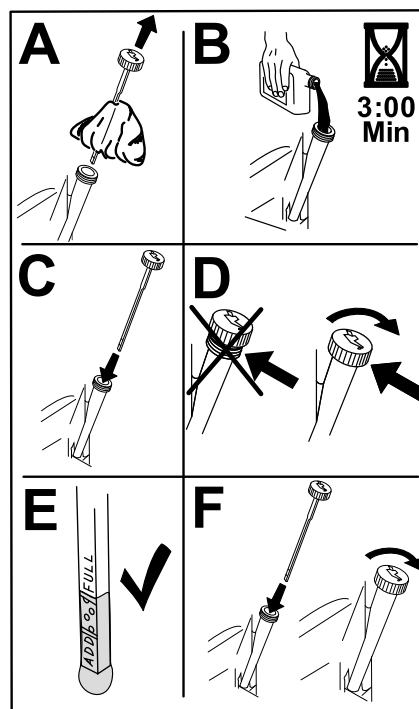

Figure 76
- Slowly pour approximately 80% of the specified oil into the filler tube and slowly add the additional oil to bring it to the Full mark (Figure 76).